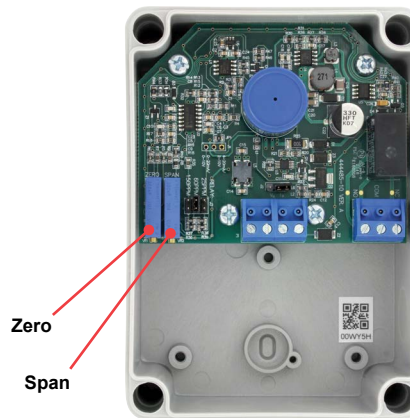

Figure 6: Calibration controls
7. Adjust the zero potentiometer in Figure 6 until the output reading on the multimeter reads 4 mA or 2 VDC (depending on output selection).
9. Adjust the span potentiometer in Figure 6 until the output reading on the multimeter reads 14.67 mA or 7.33 VDC (depending on output selection).